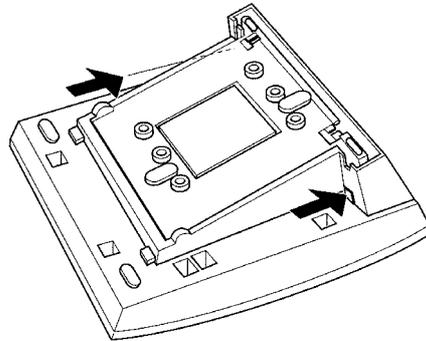

Figure 6-16 Locating the Adjustment Tabs on the Multiline Terminal
1. Turn the Multiline Terminal upside down and locate the tabs as shown in *Figure 6-16 Locating the Adjustment Tabs on the Multiline Terminal*.